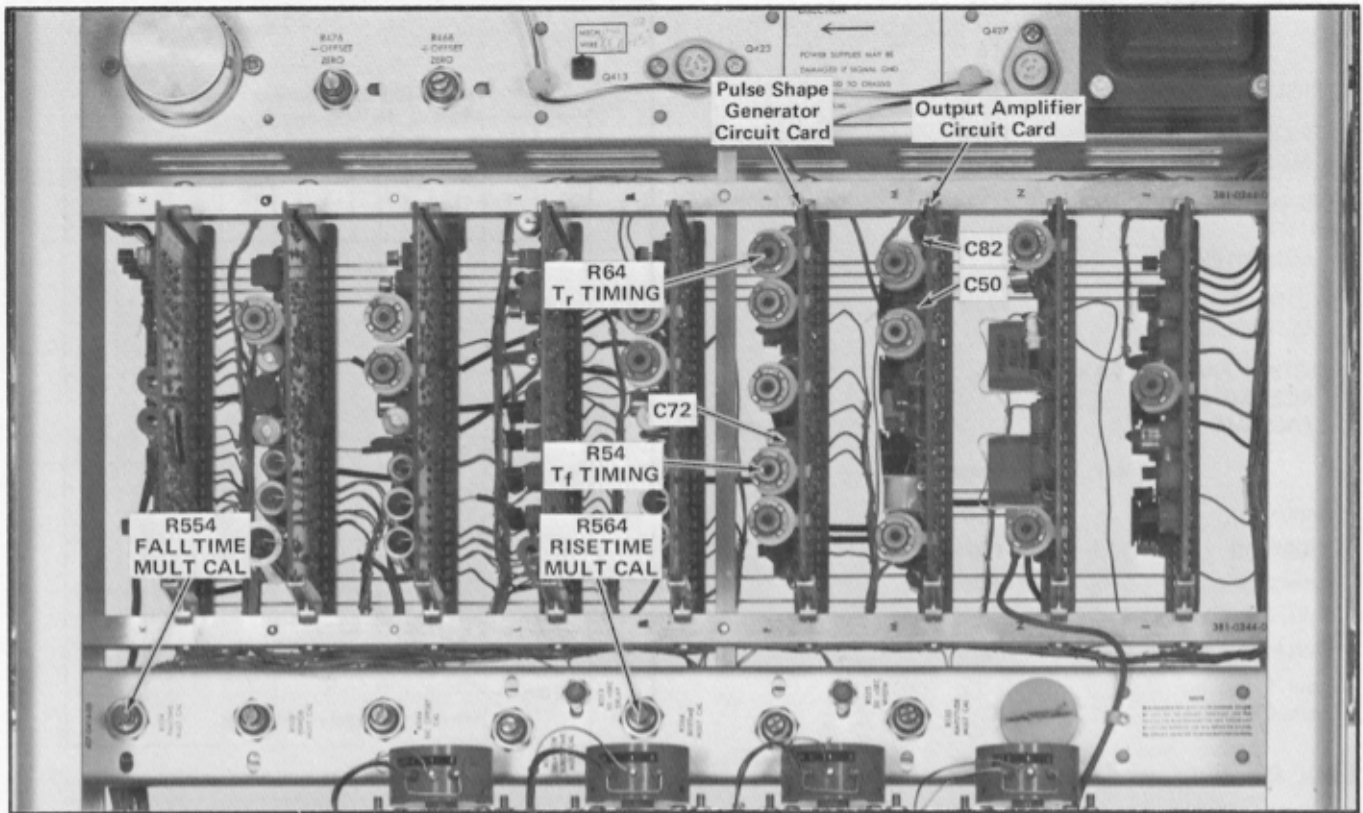

Fig. 6-11. Location of risetime and falltime, and pulse shape adjustments on Pulse Shape Generator circuit card and Type R116 chassis.
l. ADJUST—R64, the T_r TIMING adjustment on the Pulse Shape Generator circuit card (see Fig. 6-11), if the display is not correct.
p. ADJUST—R54, the T_f TIMING adjustment, on the Pulse Shape Generator circuit card (see Fig. 6-11), if the falltime is not correct.
x. ADJUST—R564, the RISETIME MULT CAL adjustment on the Type R116 chassis (see Fig. 6-11), if the risetime is not correct.
ab. ADJUST—R554, the FALLTIME MULT CAL adjustment on the Type R116 chassis (see Fig. 6-11), if the falltime is not correct.
k. ADJUST—C50, the PULSE OVERSHOOT adjustment on the Output Amplifier circuit card (see Fig. 6-11), for the fastest falltime with minimum aberrations. Adjust C82 (Pulse Tilt) for the flattest possible baseline.